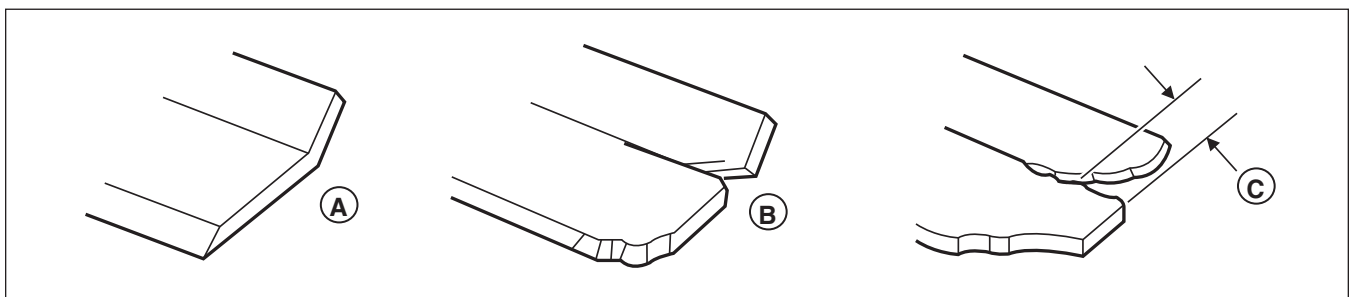

Figure 28. inspecting the Mower Blade Air Lifts
- B.) The air lifts are excessively eroded (B & C, Figure 28) and the notch (C) is .25" (6,35 mm) deep or greater.